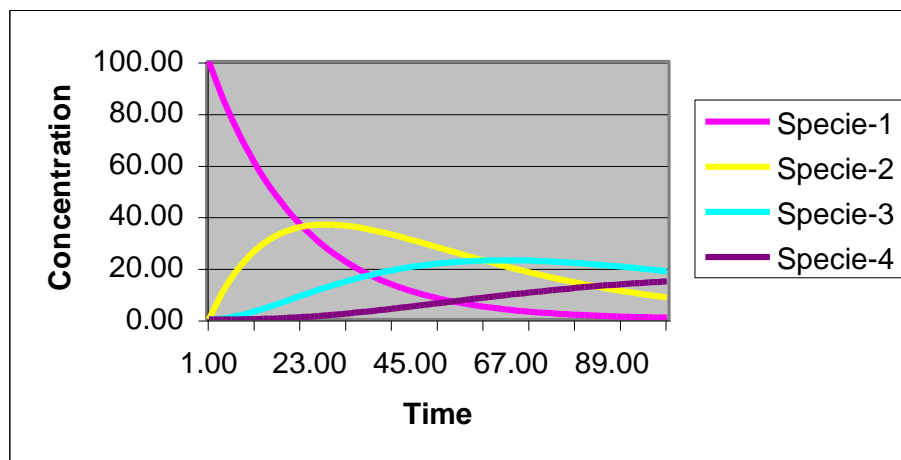

Figure 1 Sample output from the BATCHRXN code for the sample problem
After reading the input, BATCHRXN will execute and create an output file called “batchrxn.out.” The output file will contain a set of white-space separated ASCII data in column format (written using the Format statement 21E15.5). For this example problem, five columns are output: Time, specie-1 (PCE), specie-2 (TCE), specie-3 (DCE), and specie-4 (VC). Use any spreadsheet software such as Excel to plot and analyze this output data. The BATCHRXN output results for the example problem are shown in Figure 1.